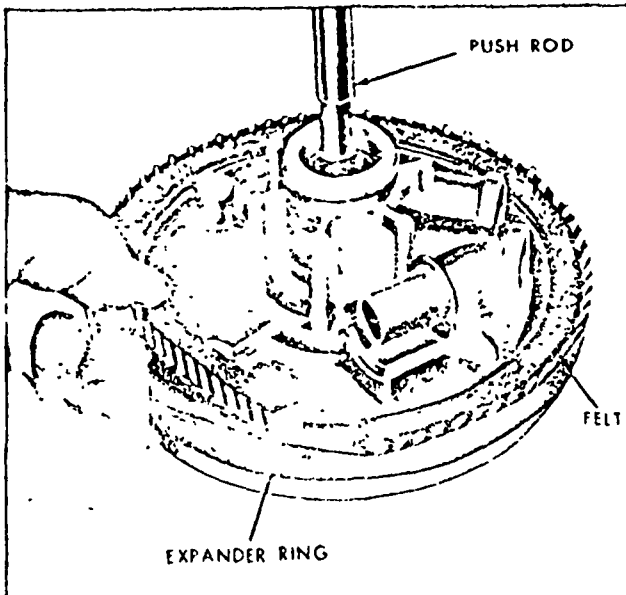

Fig 2-16 Felt and Expander Ring Installation—(9M-2411)
1. Place the assembly ring over the piston packing. Turn the piston assembly upside down and assemble the expander ring against the inside lip of the leather packing. (See Figure 2-16.)